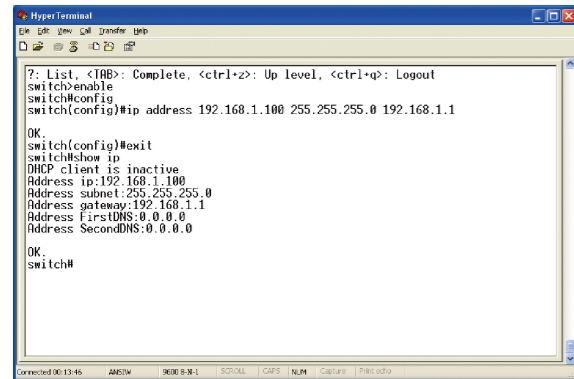

Figure 6-2 Set IP address screen
2. On "**Switch (config)#**" prompt, enter the following command and press <Enter>. As show in Figure 6-2.